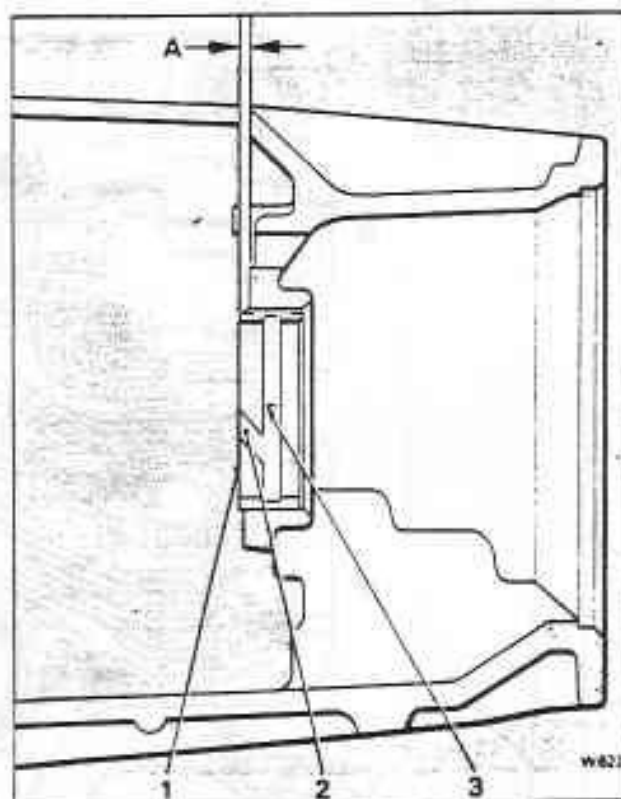

Fig. T20-2 Fitting a new case bush
If the case bushing is found to be worn or scored, fit new bushing (see fig. T20-2).
1. Support the transmission case and using the adapter (J-21465-9), on the removal/fitting tool (J-21465-8), together with the drive handle (J-8092) and extension (J-21465-13), press or drive the bush into the case until between 1,02 mm and 1,40 mm (0.040 in and 0.055 in) above the selective thrust washer face (see fig. T20-2).